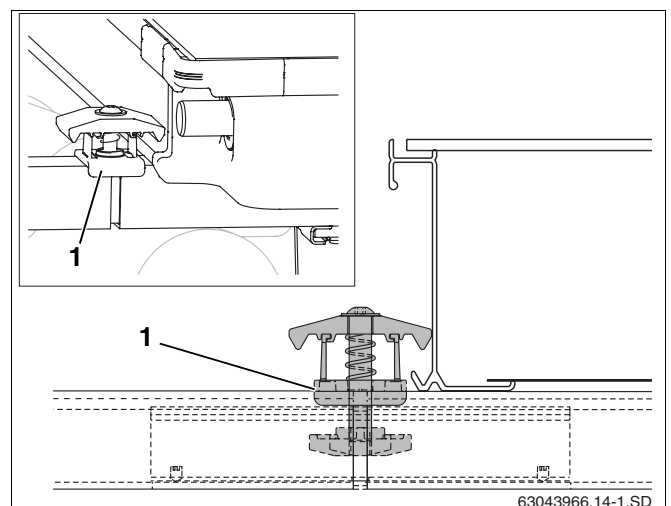

Fig. 44 Fitting a double-sided collector clamp
- ▶ Insert the double-sided collector clamp, nut first, into the opening made by the profile rail and plug connector so that the plastic spacer (Fig. 44, **Item 1**) surrounds the profile rail.